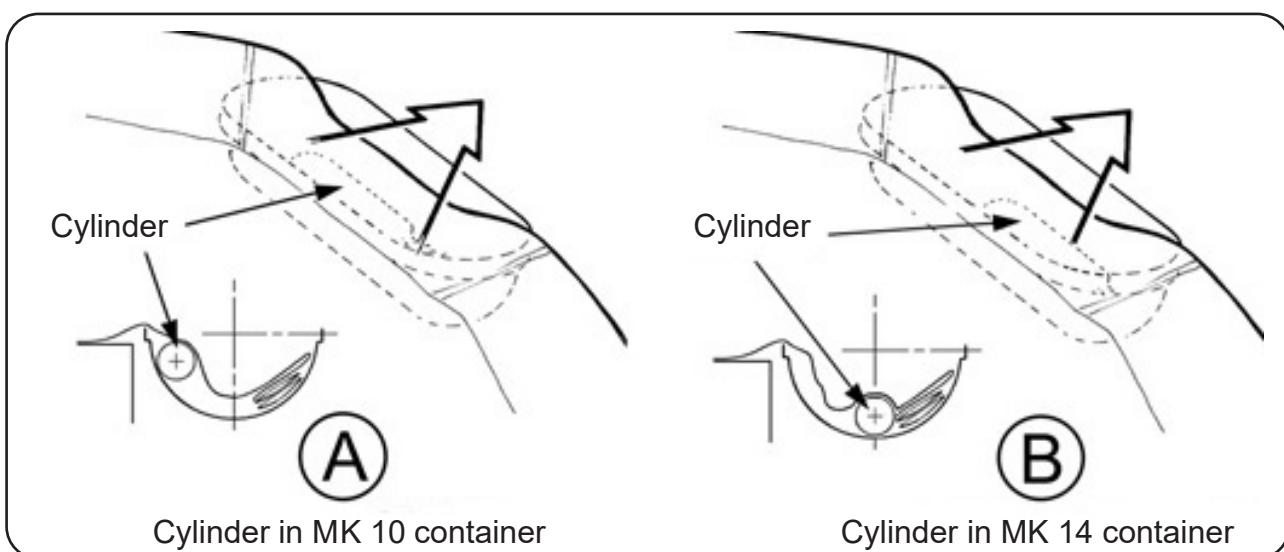

FIGURE 826
Refer to FIGURE 826.
- 5.20.1 MK 10 CONTAINER: - The top edge of the cylinder must be level with the inner container lip. Refer to FIGURE 826 Detail A.
- 5.20.2 MK 14 CONTAINER: - The cylinder must be put in the centre and with the operating head between 150 mm to 200 mm from the end of the container. Refer to FIGURE 826 Detail B.